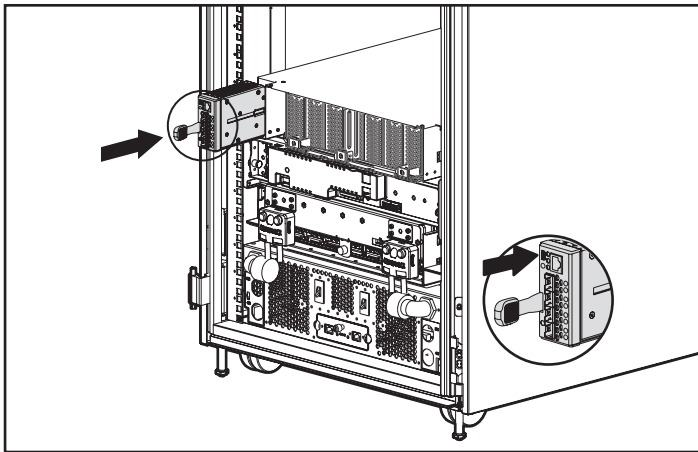

Figure 7 Installing the 4Gb SAN Switch
3. Plug the 4Gb SAN Switch into the back of the BladeSystem server enclosure; it will mate with the installed Interconnect switch. Be sure that the handle of the 4Gb SAN Switch is on the left when inserting the 4Gb SAN Switch and that the handle latch is fully engaged after installation. See Figure 7.